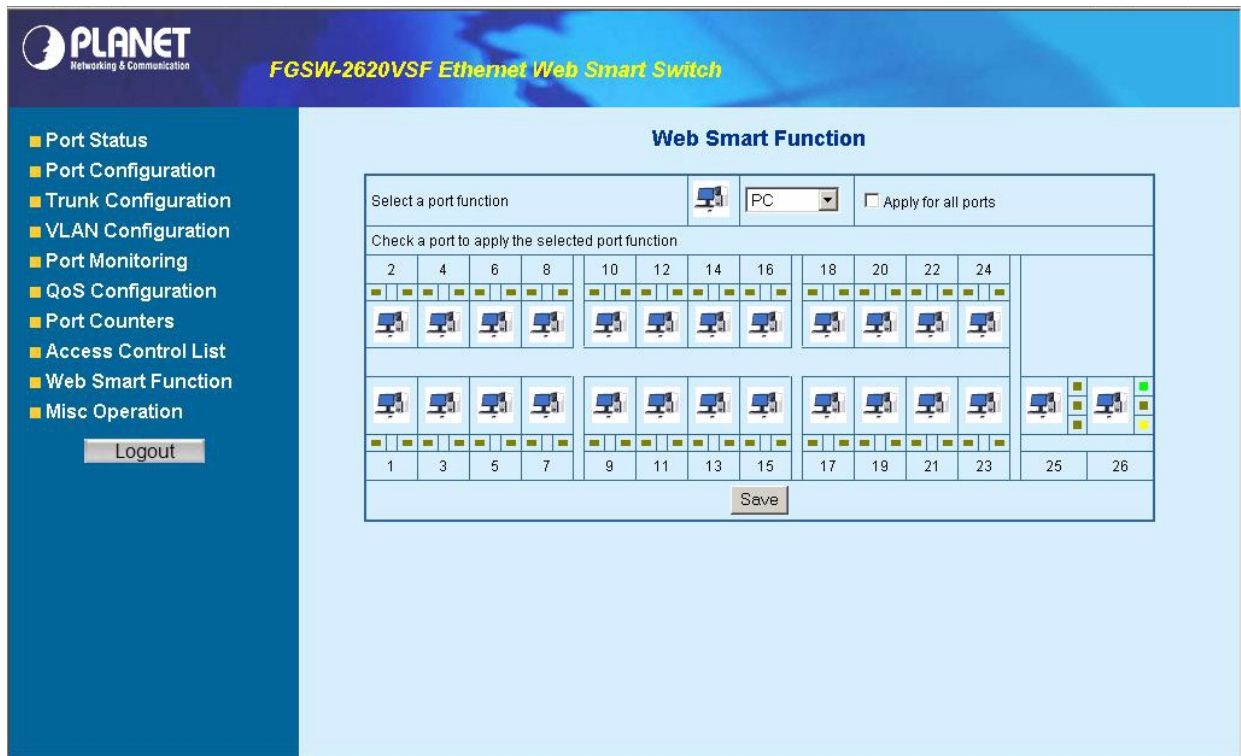

Figure 4-70 Web Smart Function Web Page screen
4. Please press “**Back**” for return to Web Smart Function screen, the screen in Figure 4-70 appears.